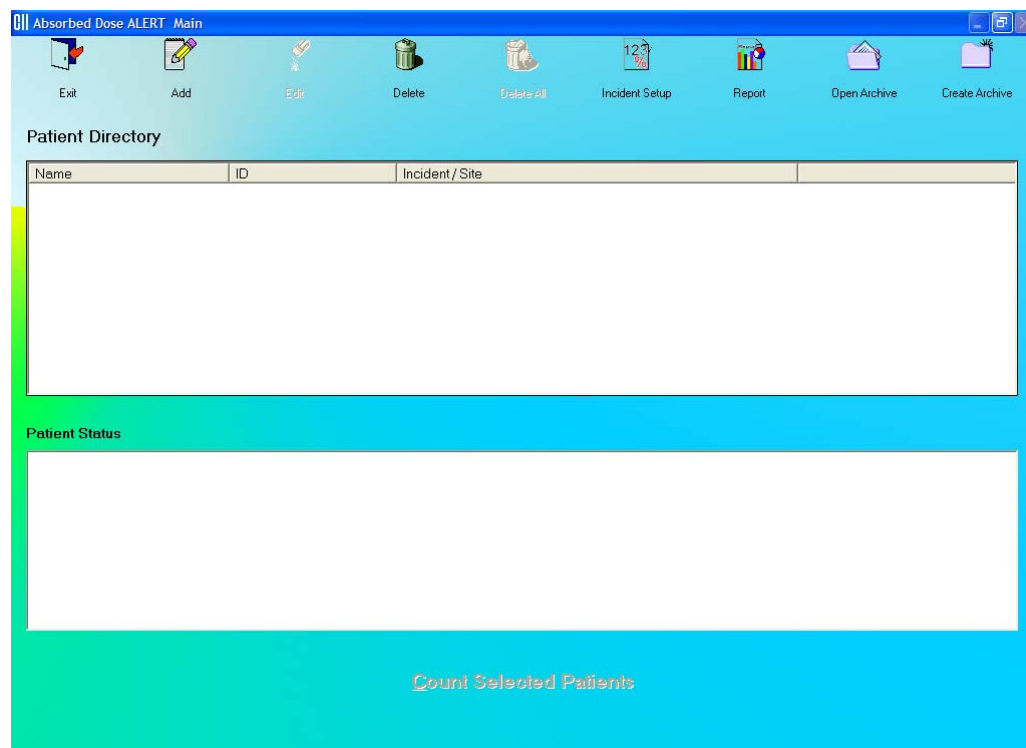

Figure 9-3 Absorbed Dose ALERT Main Screen
If  is pressed, Figure 9-3 Absorbed Dose ALERT Main Screen will appear.
Click the  icon on Figure 9-3 Absorbed Dose ALERT Main Screen. Figure 9-4 Incident Setup Screen will appear.
2. Click the **Done** button to save changes or click the **Cancel** button to discard the changes and return to Figure 9-3 Absorbed Dose ALERT Main Screen.
Click the  icon on Figure 9-3 Absorbed Dose ALERT Main Screen. Figure 9-6 will appear.
Click the **Incident Setup** icon on Figure 9-3 Absorbed Dose ALERT Main Screen. Figure 9-7 will appear.
Click the  icon on Figure 9-3 Absorbed Dose ALERT Main Screen. Figure 9-12 will appear.